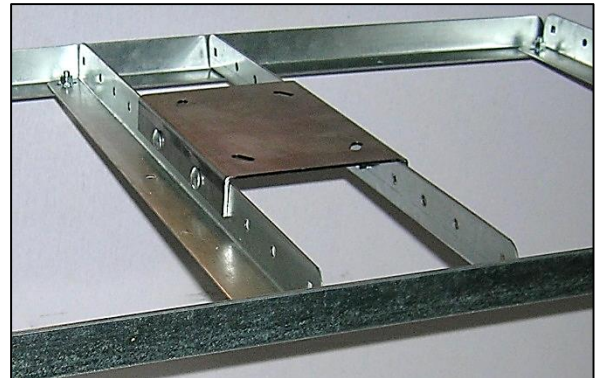

Figure 2 – antenna mount bracket attached to frame
3.2: Attach Antenna Mount Plate to Center Frames. Attach the antenna mount plate to the center frames using 1/4" x 3/4" carriage bolts (refer to Figure 2). Push a carriage bolt through the pre-drilled holes in the plate and center frame. Place a lock nut on the threaded end and use a 7/16" wrench or ratchet with 7/16" socket to tighten.